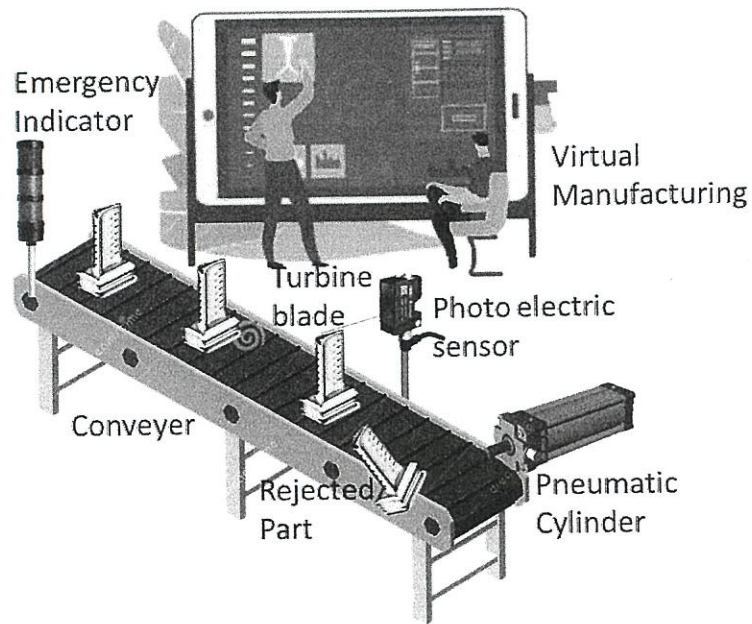

FIGURE Q4 Virtual manufacturing
- Q4** In Virtual Manufacturing Aircraft production line, a photo electric sensor is used to ensure the turbine blade parts has uniform size in an automatic quality inspection process as shown in **Figure Q4**. If the sensor detects the part, that's mean the part has unacceptable height and must be rejected. Once the rejected part is being detected, a double acting pneumatic cylinder which is attached near the sensor push the rejected part off the conveyor into rejected box. Otherwise the turbine blade parts continue moving on the conveyor and the cylinder remain inactive. If the cylinder rejects more than 10 parts, an emergency indicator emits red light to show that the rejected parts has reached the limit so the system could stop the entire system for 5 minutes and before continuing. Select the Programmable Logic Controller (PLC) system including pneumatic diagram, motion diagram, electrical diagram and ladder diagram for this automation system according to ISO 1219 standard respectively. All components require 12VDC supply voltage. (20 marks)